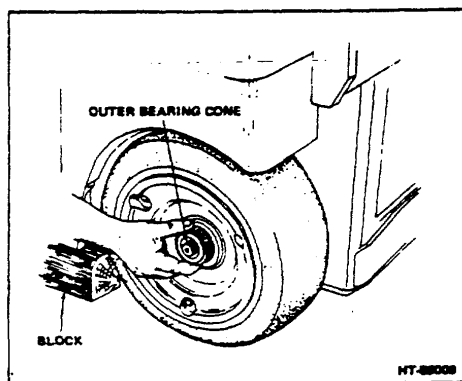
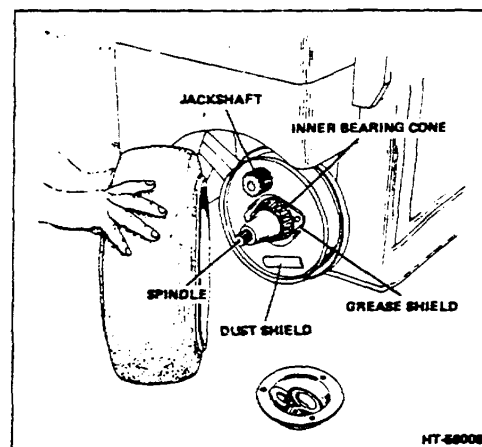

Figure 2-1. Removing Wheel Bearing
Figure 2-2. Wheel Removed
5. Remove outer bearing cone (Fig 2-1) and remove wheel (Fig 2-2).